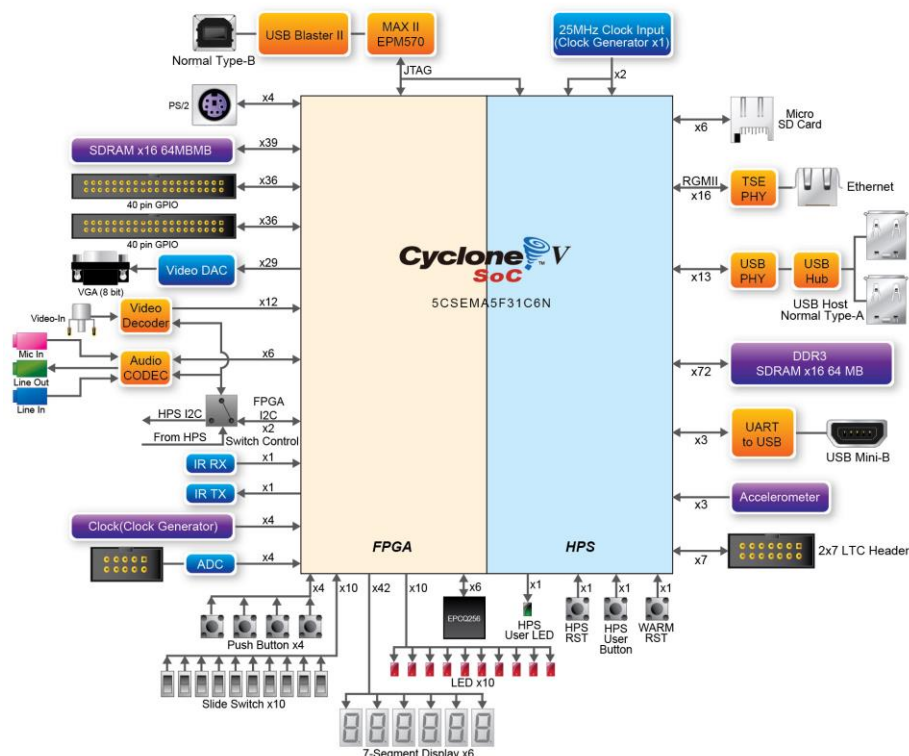

Figure 2-3 Block diagram of DE1-SoC
**Figure 2-3** is the block diagram of the board. All the connections are established through the Cyclone V SoC FPGA device to provide maximum flexibility for users. Users can configure the FPGA to implement any system design.
Detailed information about **Figure 2-3** are listed below.